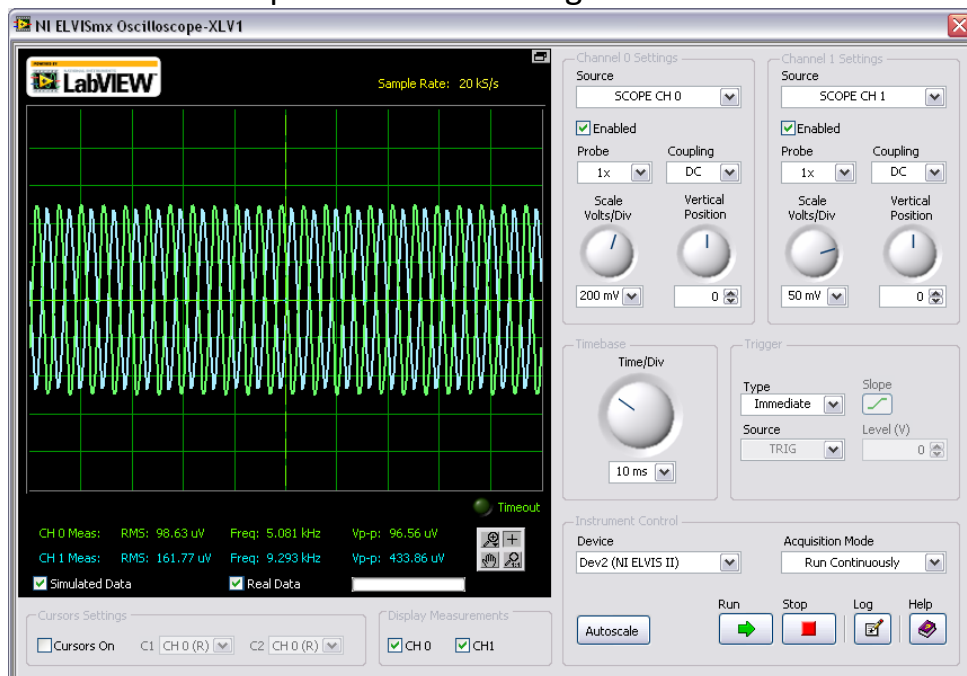

Figure E3-10. ELVISmx Oscilloscope Soft Front Panel
- n. Observe the hardware output as well as the simulated output of your circuit overlaid on each other. This allows you to compare the output of your hardware implementation to your schematic design within Multisim. After the device is set to acquire real data from the NI ELVIS II, you should see output similar to the Figure E3-10 below.